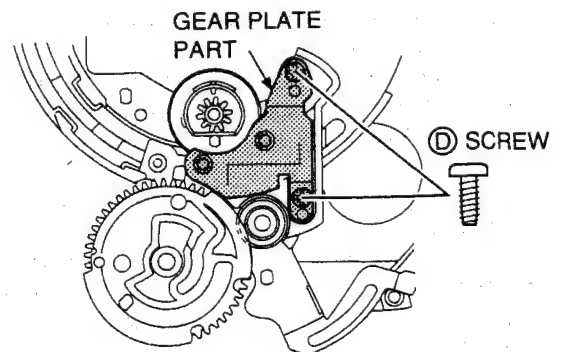

Fig. 3-34
9. Remove the two (D) screws then remove the GEAR PLATE PART as shown in Fig. 3-34.